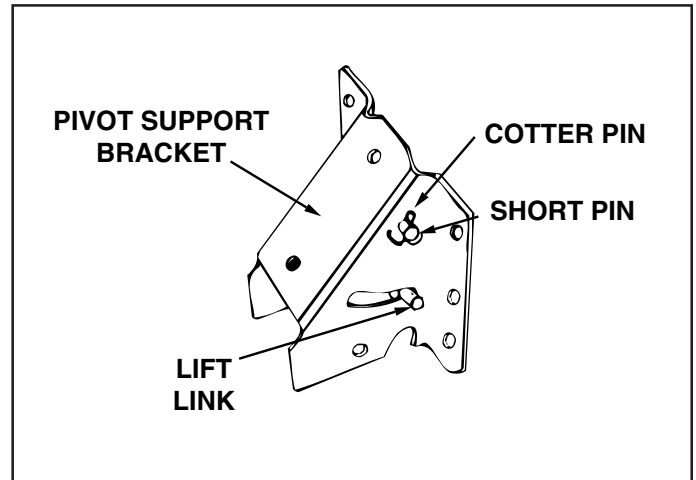

FIGURE 3
- Place the lift link inside the pivot support bracket. The long pin on the lift link goes through the slot in the pivot support bracket. The short pin goes through the hole shown in figure 3. Secure short pin with 1/8" x 1-1/4" cotter pin.